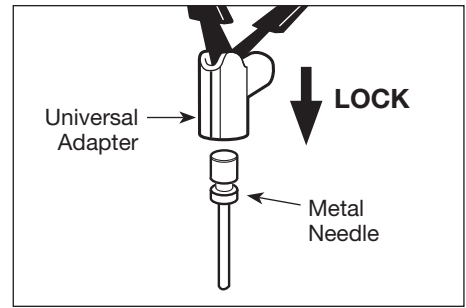

Figure 3 - Lock Universal Adapter Securely
2. When the universal adapter is firmly in place, press the locking lever down. (See Figures 3 and 4).